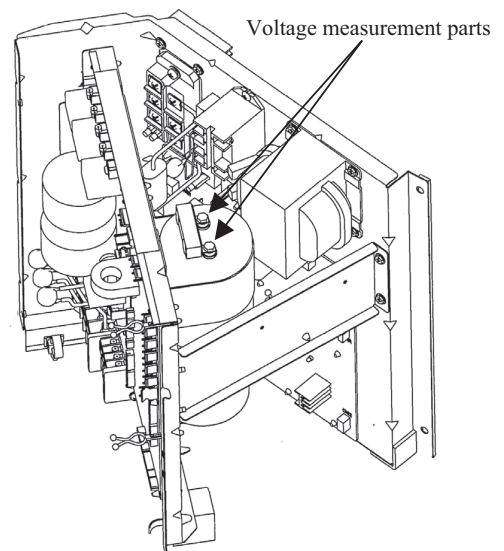

Fig.1 Position of capacitor
(**Be sure to measure voltage (DC)** on both capacitor terminals located in control back, and **check that the voltage is discharged sufficiently**.(Refer to Fig.1))